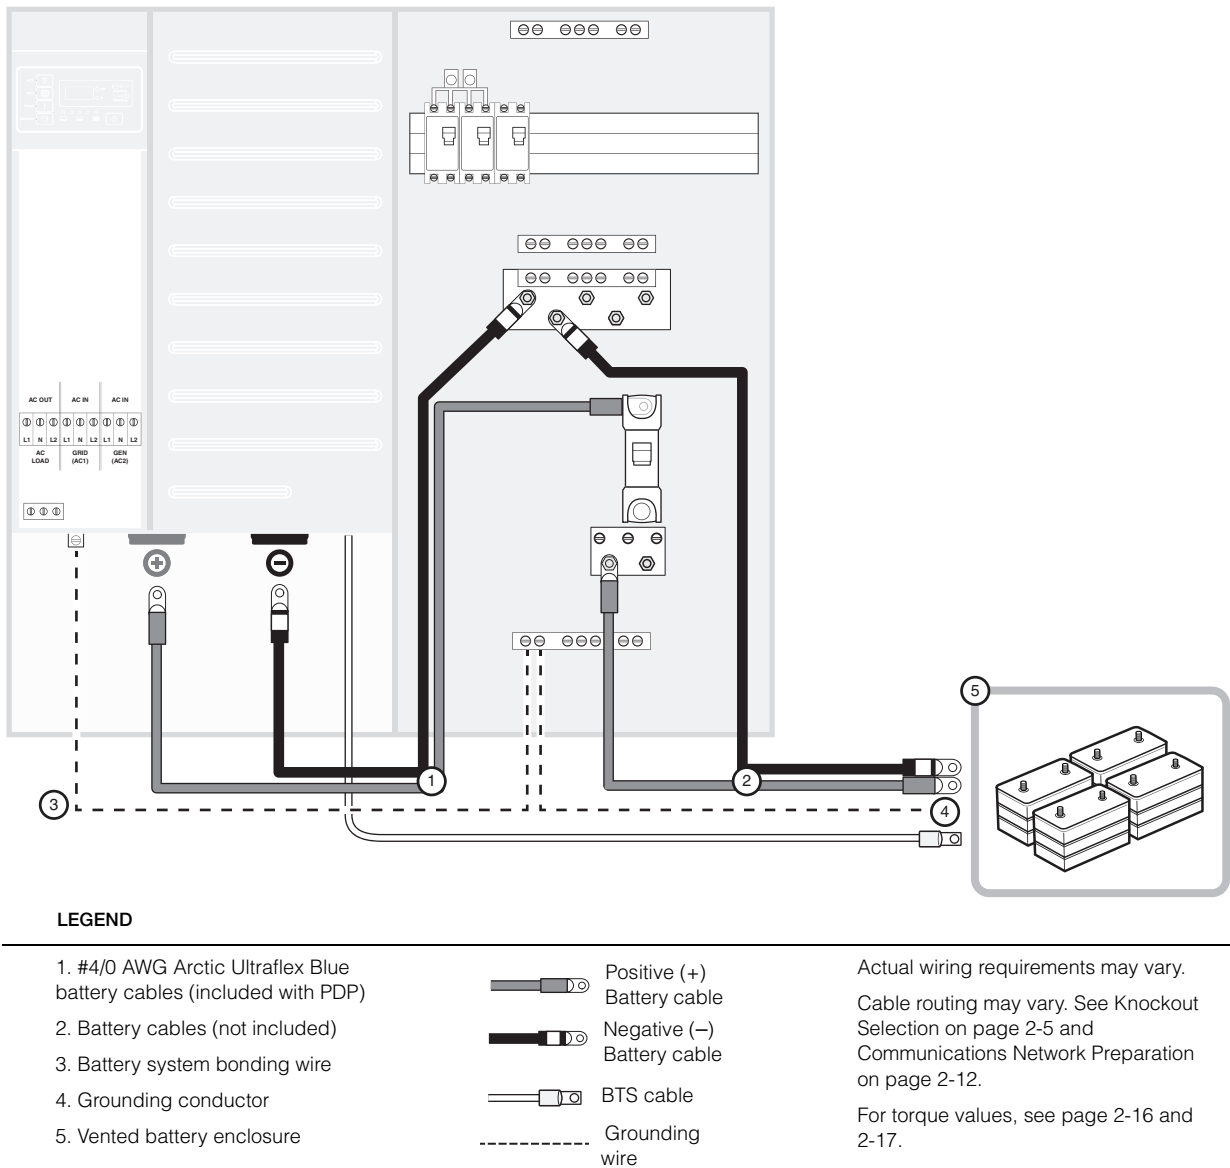

Figure 3-9 DC Connections to a Single Inverter Using a PDP
1. Connect the positive battery cable (pre-installed in the PDP) to the positive battery terminal at the bottom of the Conext XW+, as shown in Figure 3-9 on page 3-18.
1. Connect your battery cables (not included) to the PDP. Connect the negative battery cable to the DC Negative Bus, and the positive battery cable to the input end of the GJ250A 160 VDC, 3/8" stud DC breaker (pre-installed in the PDP), as shown in Figure 3-9 on page 3-18.